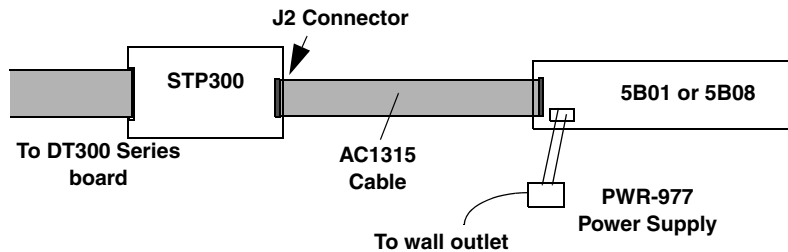

Figure 6: Connecting the 5B01 or 5B08 Backplane to the STP300
1. Plug one end of the AC1315 cable into the J2 connector of the STP300 screw terminal panel, as shown in Figure 6.